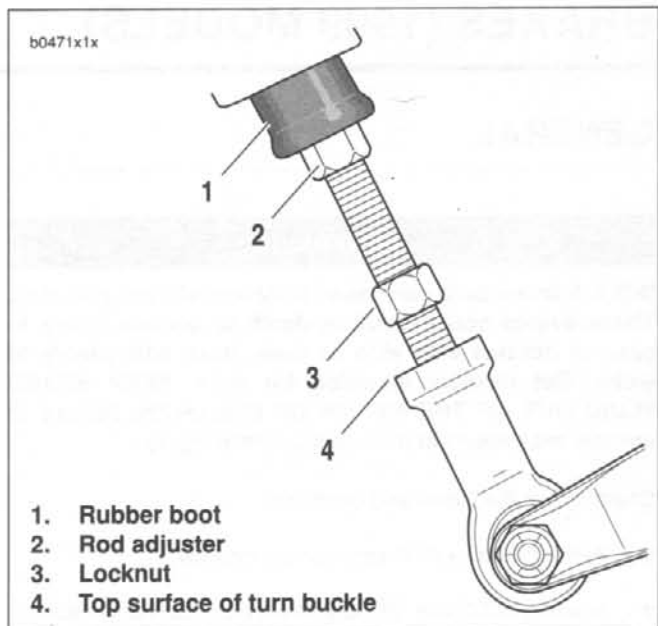

Figure 1-19. Pushrod Adjustment
1. See Figure 1-19. Slide rubber boot (1) upward.
2. Measure distance from bottom edge of rod adjuster (2) to top surface of turn buckle (4).
- a. If measurement approximately 0.84 in. (21.3 mm), slide rubber boot (1) down over assembly. Brake pedal adjustment is not needed.
- a. See Figure 1-19. Loosen locknut (3) while holding rod adjuster. Move locknut away from top surface of turn buckle.
- c. Return locknut (3) to fit flush against top surface of turnbuckle (4).
- d. Slide rubber boot (1) down over rod adjuster (2).